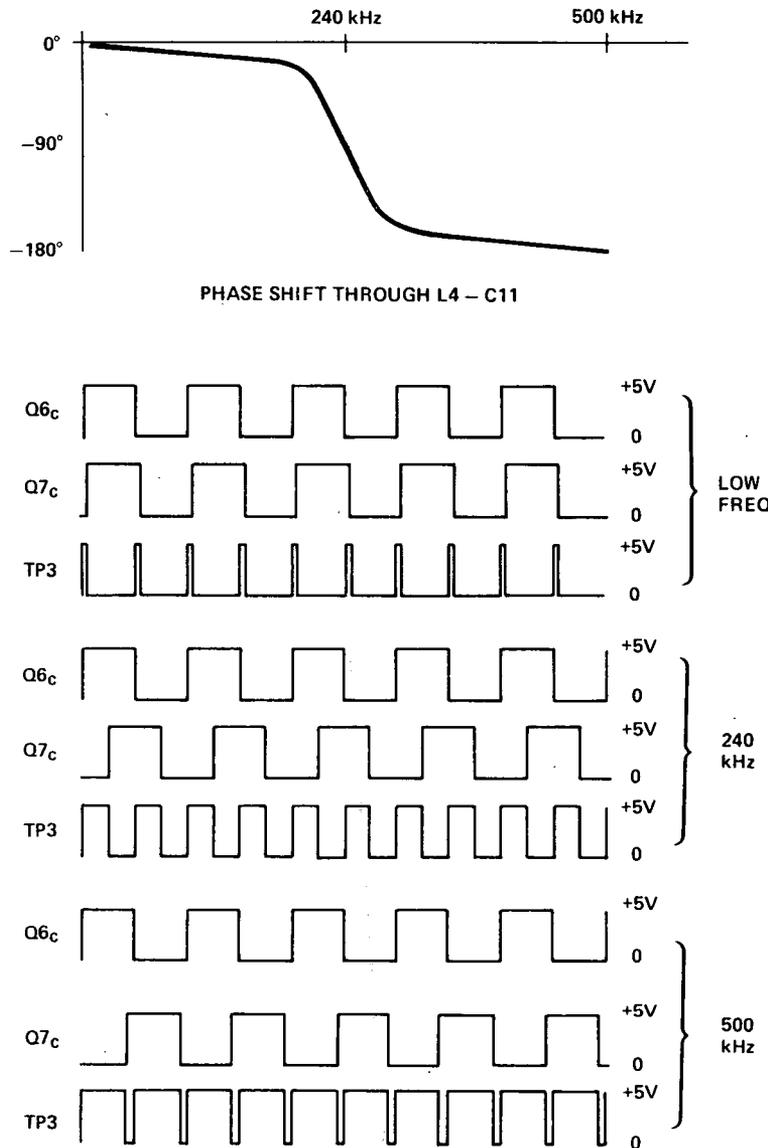

Figure 8-99. Discriminator Wave Shapes
**EXCLUSIVE OR (K)** . Quad NAND gate integrated circuit A1U2 is connected as an EXCLUSIVE OR circuit. Its output is high when the two inputs are different, and low when they are the same. The output of the EXCLUSIVE OR circuit at A1TP3 has a dc component with an average value that is a function of frequency (see Figure 8-99).
The signal at A1TP1 should be a sine wave, 0.15V to 0.3V peak-to-peak, for frequencies between 1 and 500 kHz. The voltage level should decrease rapidly as the frequency is increased above 500 kHz. Observe signals at collectors of A1Q6 and A1Q7 with a dual-channel oscilloscope. The signals should be 0 to +5V square waves. As the oscillator frequency is varied, the phase relationship of the square waves should vary as follows: at low frequency, the square waves should be almost in phase; at 240 kHz they should be approximately 90 degrees out of phase; at frequencies approaching 500 kHz they should be nearly 180 degrees out of phase. Also note how the average value of the EXCLUSIVE OR output at A1TP3 increases as the oscillator frequency is increased (see Figure 8-99).